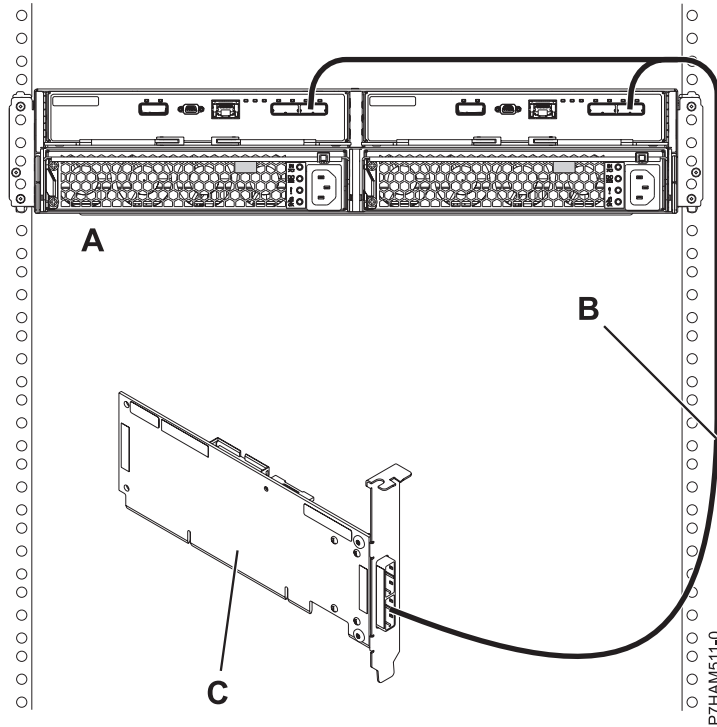

Figure 28. Mode 1 connection of one 58/87 disk drive enclosure by using a YO cable to a single SAS adapter
- i. Perform the mode 1 connection of one 58/87 disk drive enclosure (A) by using a YO cable (B) to a single SAS adapter (C) as shown in Figure 28 on page 26.